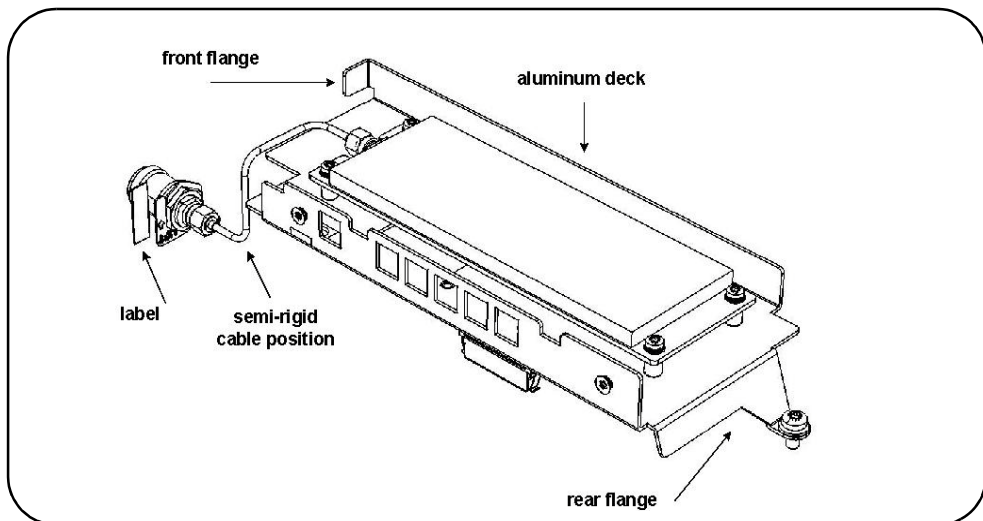

Figure 10. 53210A Channel 2 Front Panel Option 106/202.
3. Assemble the parts in the Option 106/115 package as follows (Figure 10):
13. Connect the supplied semi-rigid cable to the SMA connector on the connector-adaptor. Finger-tighten the connector so that the cable is positioned to connect to the Channel 2 assembly as shown in Figures 10 and 14. Do not tighten the nut with a wrench yet.